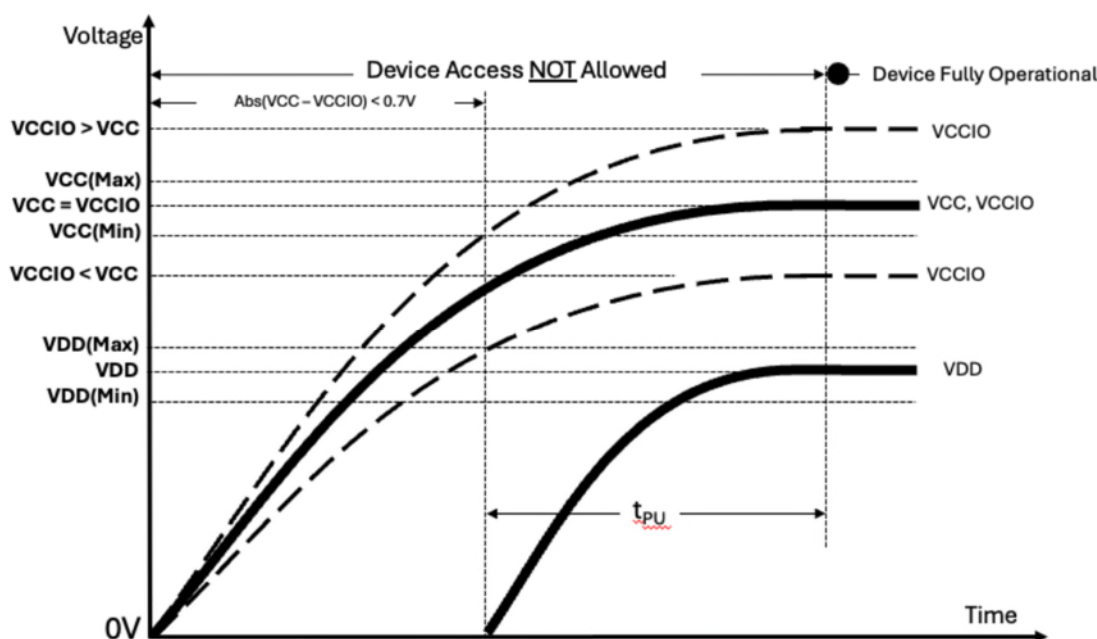

Figure 7: Power-Up Behavior
- The device must not be selected at power-up (a 10K Ω pull-up Resistor to VCCIO on CS# is recommended). Then a further delay of t_{PU} (Figure 7) until VCC reaches VCC(minimum).